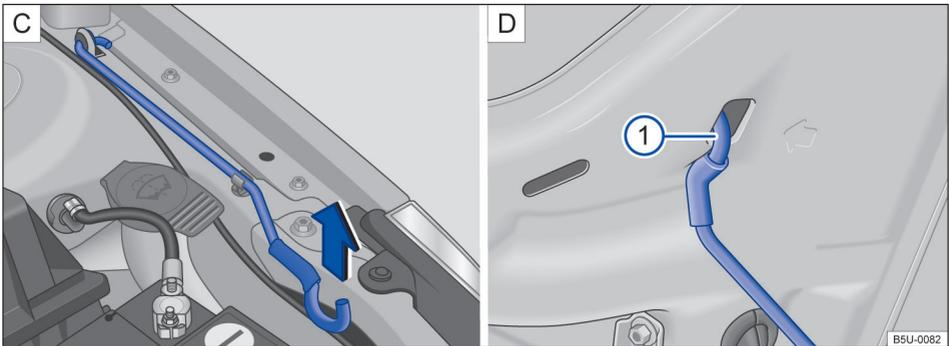

Fig. 152 C) Bonnet stay. D) Bonnet secured with the bonnet stay.
- Take the bonnet stay out of the holder in the direction of the arrow → Fig. 152 C) and insert it in the bonnet opening → Fig. 152 ① D).
- Take the bonnet stay out of the holder → Fig. 152 ① D) and insert it in the opening in the bonnet → Fig. 152 C).